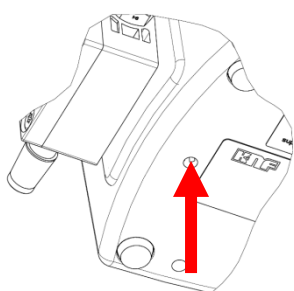

Fig. 1: Discharge outlet
- Never close the discharge outlet (see Fig. 1)
If the pump diaphragm ruptures, the transferred medium is channelled out of the pump through the discharge outlet (see Fig. 1).